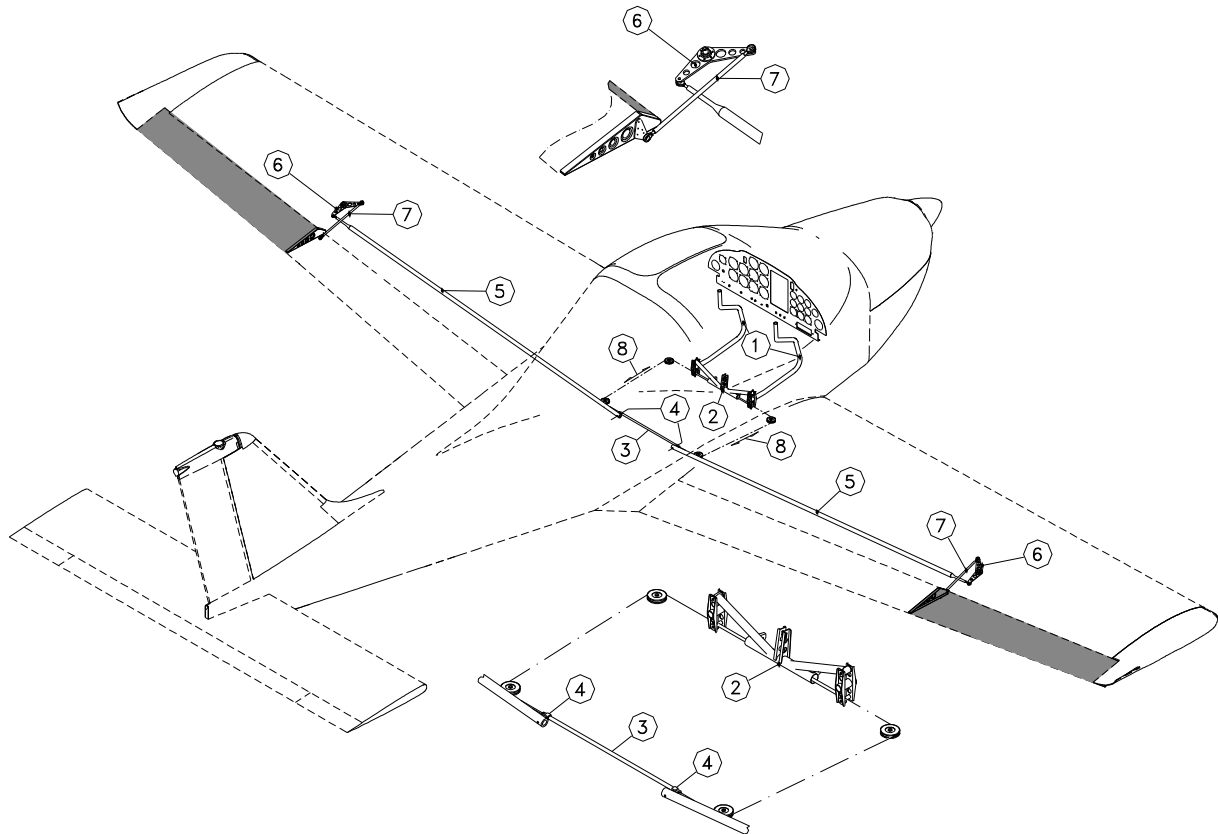

FIGURE C-5 AILERON CONTROL
- I. Disconnect aileron control (see fig. C-5) by removing pins (4) that connect the small bar (3) to the pushrods (5).
2.2. AILERON CONTROL (SEE FIG. C-5)